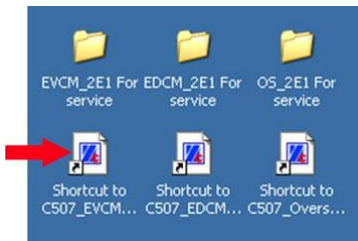

Figure 21
3.18. Double click on the "EVCM 2E1" shortcut on the desktop (arrow, Figure 21) to open the calibration tool.